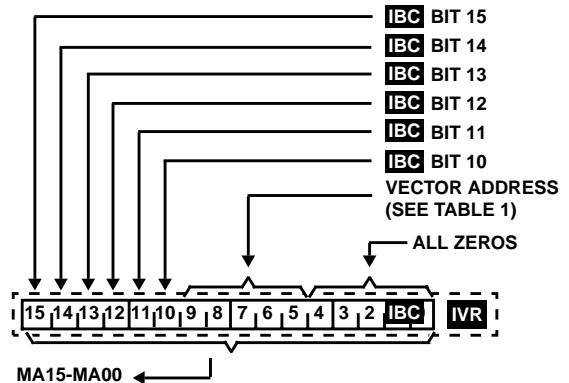

FIGURE 12. IVR BIT ASSIGNMENTS
**IVR**: The Interrupt Vector Register is a read-only register which holds the current Interrupt Vector value. See Figure 12 and Table 4.